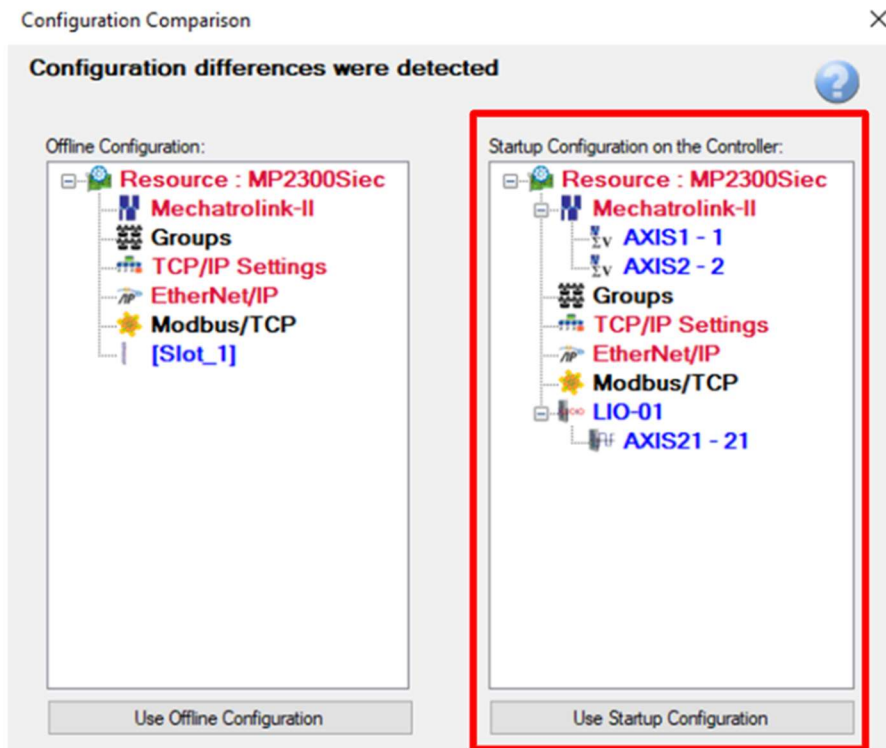

Figure 5: Configuration Comparison Window
- There should be a Startup Configuration already on the controller, so choose the Startup Configuration on the Controller as highlighted in Figure 5.